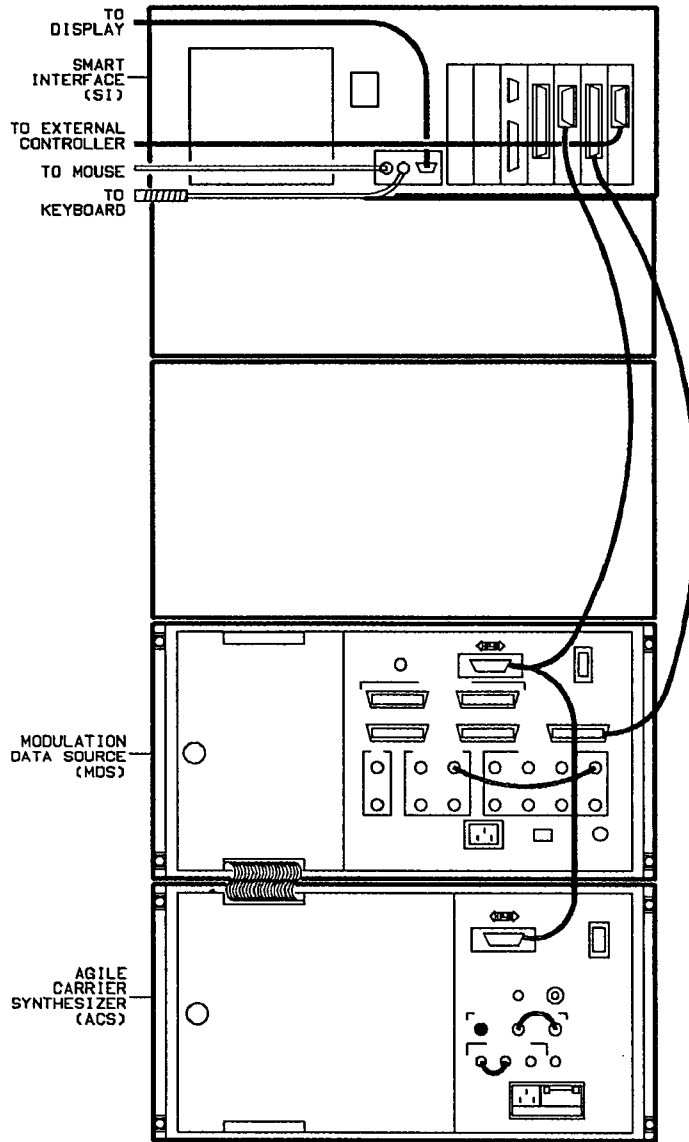

Figure B-2. HP FASS Model 7 Rear Panel
- HP FASS Model 11 system figures B-2 and B-4.